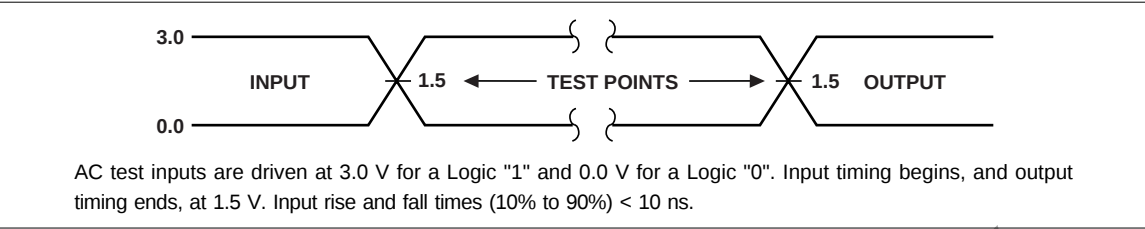
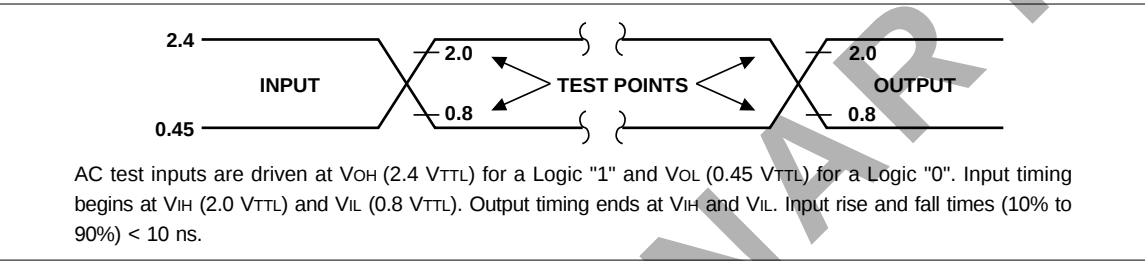
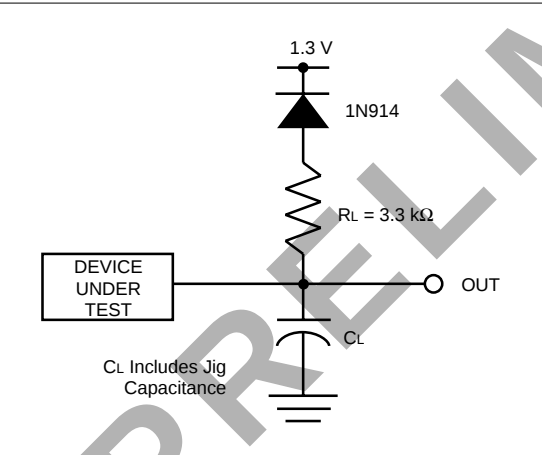

Fig. 12 Transient Input/Output Reference Waveform for $V_{CC} = 5.0 \pm 0.25$ V
Fig. 13 Transient Input/Output Reference Waveform for $V_{CC} = 5.0 \pm 0.5$ V
Fig. 14 Transient Equivalent Testing Load Circuit
1. See AC Input/Output Reference Waveform (Fig. 12 and Fig. 13) for maximum allowable input slew rate.
4. See Fig. 12 "Transient Input/Output Reference Waveform" and Fig. 14 "Transient Equivalent Testing Load Circuit" (High Speed Configuration) for testing characteristics.
5. See Fig. 13 "Transient Input/Output Reference Waveform" and Fig. 14 "Transient Equivalent Testing Load Circuit" (Standard Configuration) for testing characteristics.